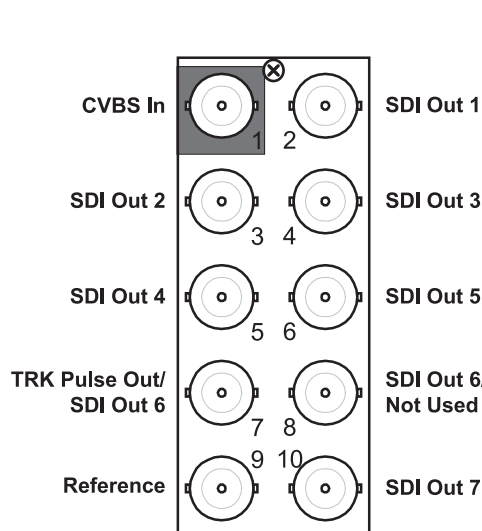

Figure 2.2 Cable Connections for the 8310AR-030 and 8320AR-030
- **8310AR-030** Rear Module — Each rear module occupies one slot and accommodates one card. This rear module provides seven SD-SDI outputs, one tracking pulse output, and a reference input. (Figure 2.2)
- **8320AR-030** Full Rear Module — Each rear module occupies two slots and accommodates one card. This rear module provides seven SD-SDI outputs, one tracking pulse output, and a reference input. (Figure 2.2)